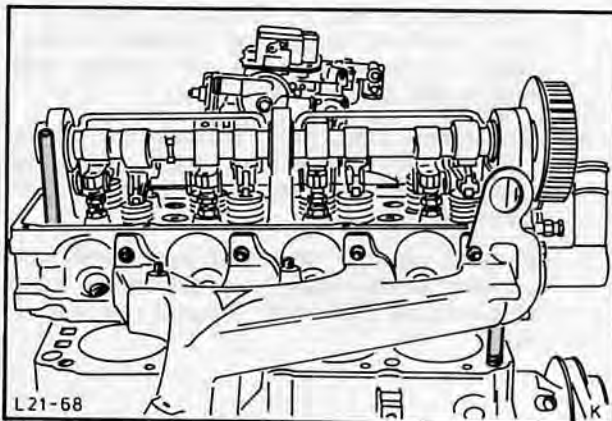

Fig. 140. Fit cylinder head using centering studs 21-003
9. Fit cylinder head, Fig. 140, and insert cylinder head bolts finger tight. Take out locating studs and replace them by the last two bolts. Cylinder head bolts should then be tightened to specified torque in three stages in order shown in Fig. 141.